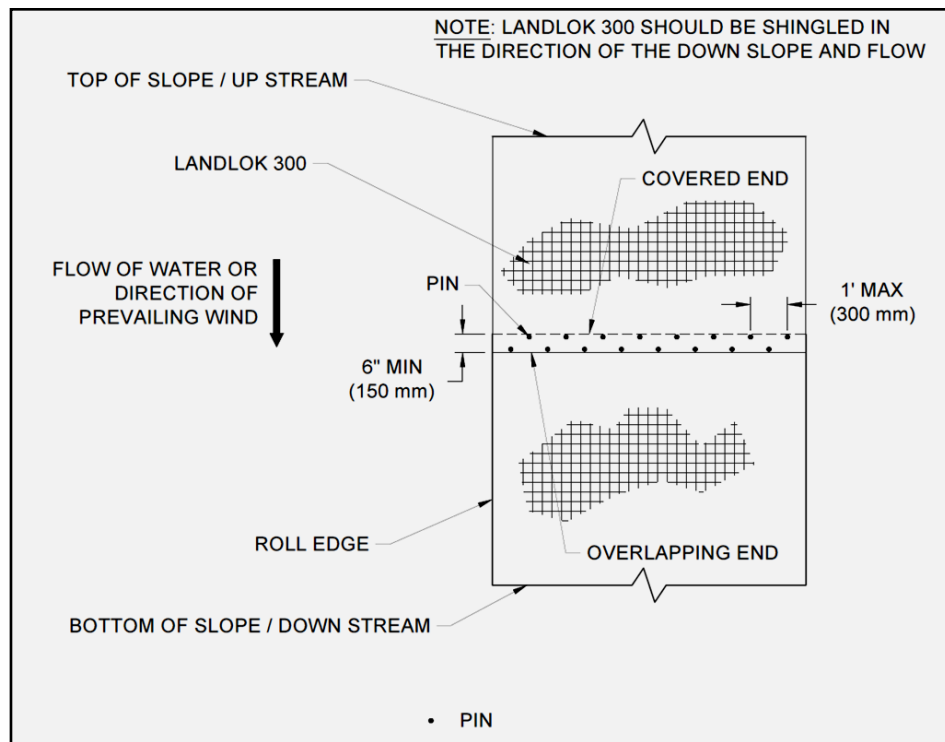

Figure 13: Roll End Overlap
- Roll ends shall be overlapped a minimum of 6 in (150 mm) with upstream panel on top. Secure roll end overlaps with two rows of pins staggered 6 in (150 mm) apart on 12 in (300 mm) (Figure 13)